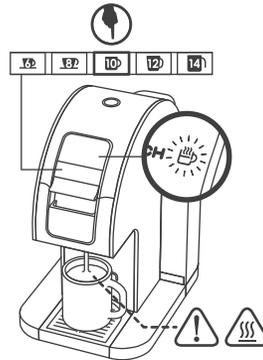

Fig. 5
**CAUTION:** Extremely Hot Water! (Fig. 5)
6. With the cover closed, press the 10 oz Button to start the brewing cycle. (Fig. 5) The brewing indicating light on the upper right corner will stay ON while the brewer is warming up. Note that the brewer will pump the water to the Water Tank while warming up. This is normal and it may take up to 30 seconds to warm up from a cold start. The brewing indicating light will start to blink when the brewing cycle starts.